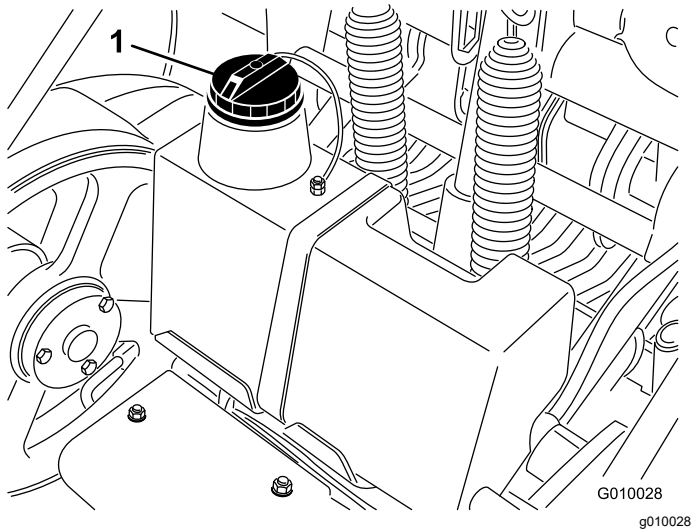

Figure 62
3. Clean the area around the filler neck and the cap of the hydraulic tank (Figure 62). Remove the cap from the filler neck.